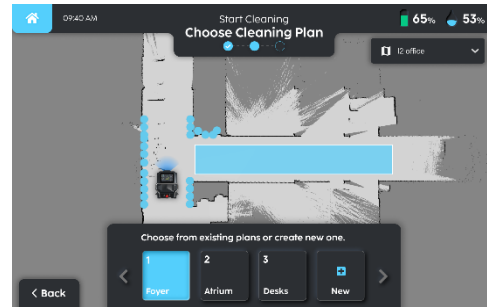

Fig. 4
4. The R3 SCRUB's position on the map is indicated by an arrowhead (Fig. 4). The points and segments on the map reflect the robot's vision through the LIDAR.